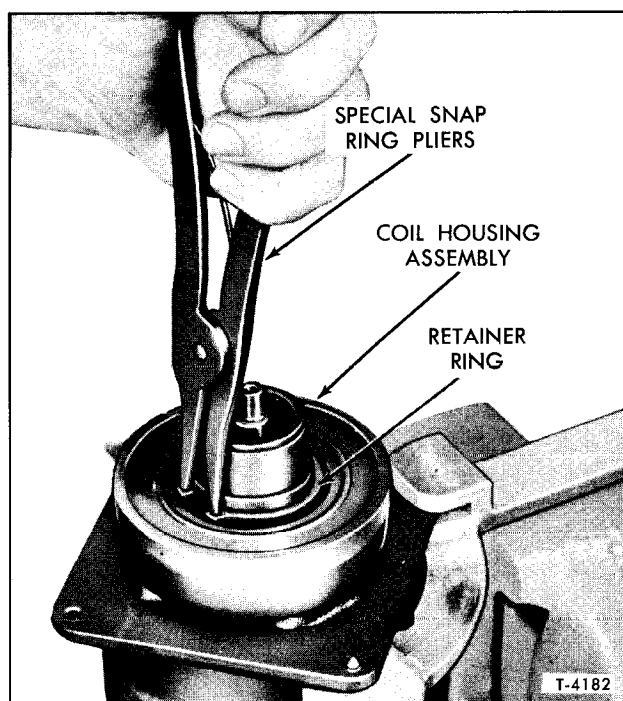

Figure 41—Removing Coil Housing Retainer Ring
3. Using snap ring pliers (J-6435), remove the coil housing retainer ring (figure 41).